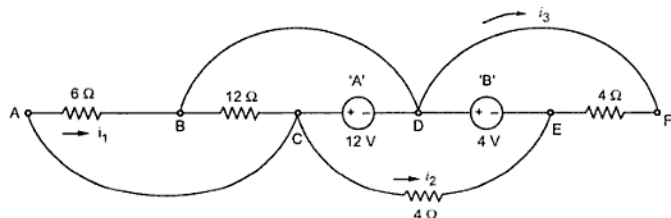

Fig. 1.57
►►► **Example 1.27 :** Find the currents i_1 , i_2 , i_3 and powers delivered by the sources of the network in Fig. 1.57.
Solution : The various branch currents are shown in the Fig. 1.57 (a), by applying KCL at various nodes in terms of i_1 , i_2 , i_3 shown.